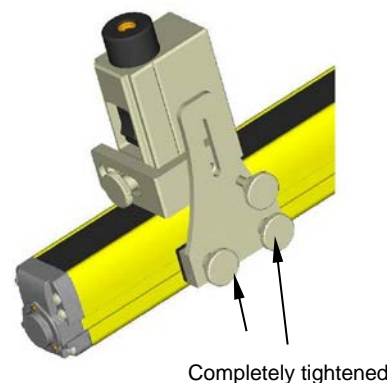

Figure 5
4. As shown in the previous figures, it is enough to place the obtained assembly on the light curtain front panel to have a first rough positioning. Then, bring the “d” bracket close to the “b” ensemble, tightening completely the corresponding knurled knobs. See Figure 5.